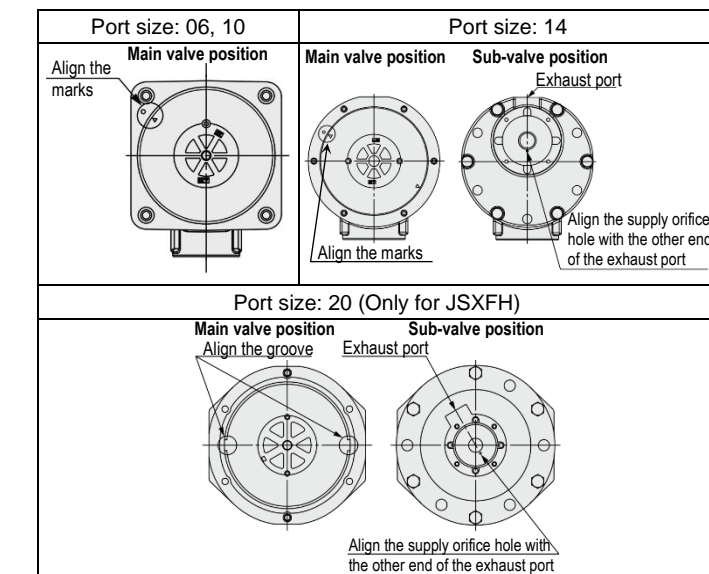

Fig.8
- Assemble the main valve (and/or sub-valve) to the body, with reference to the mounting orientation shown in Fig.8.